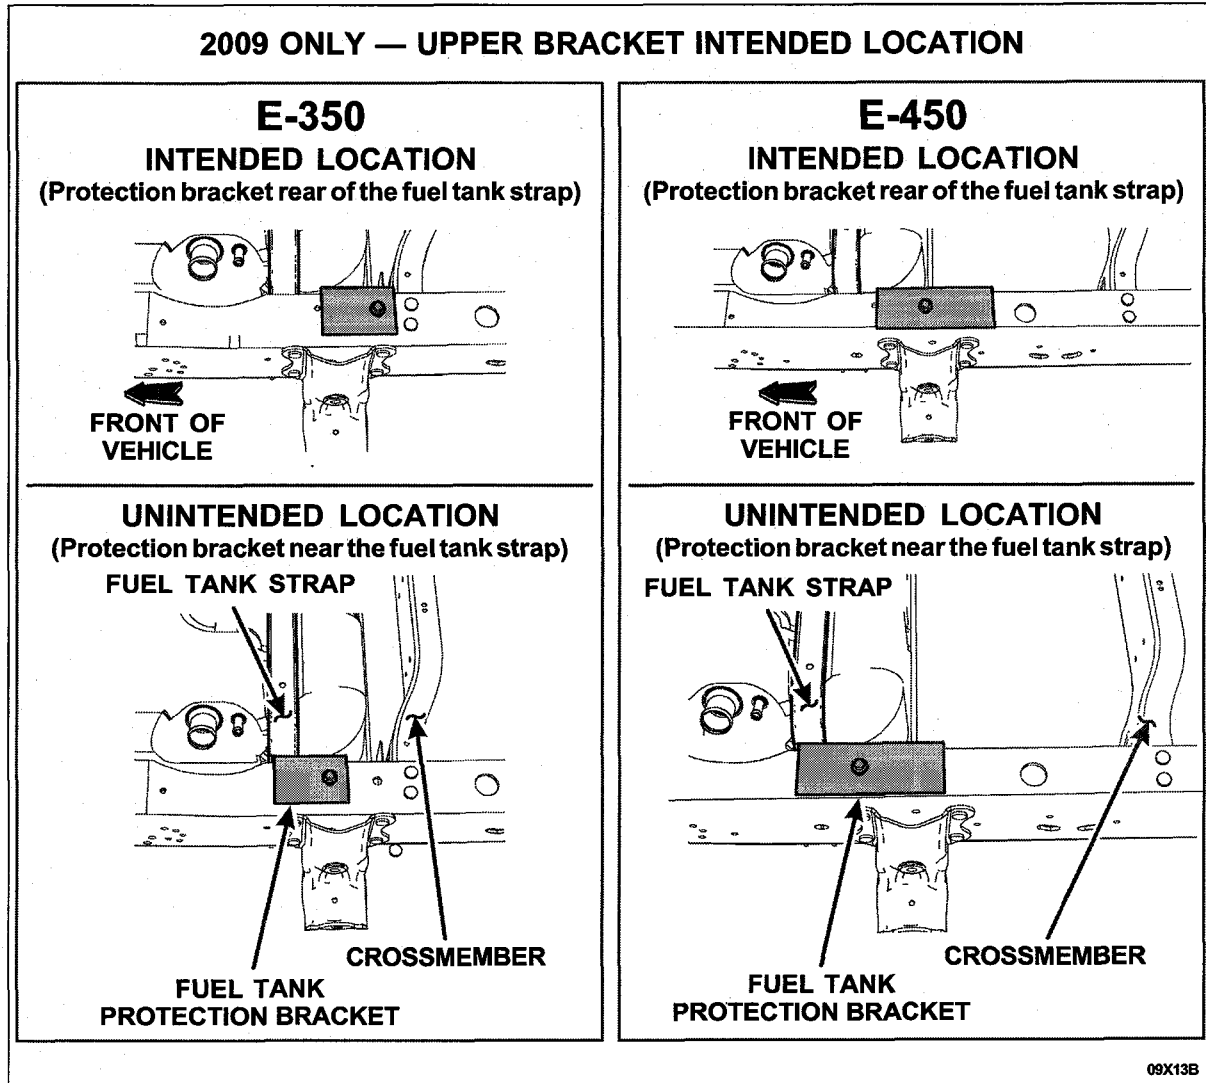

FIGURE 2
2. **2009 ONLY** – Inspect the top of the LH frame rail just above the rear spring shackle for the proper location of the upper fuel tank protection bracket. See Figure 2.
- The intended location for the upper fuel tank protection bracket is approximately 1 inch to the rear of the fuel tank strap. **If the bracket is closer to the fuel tank strap, it is in the unintended location.** See Figure 2.